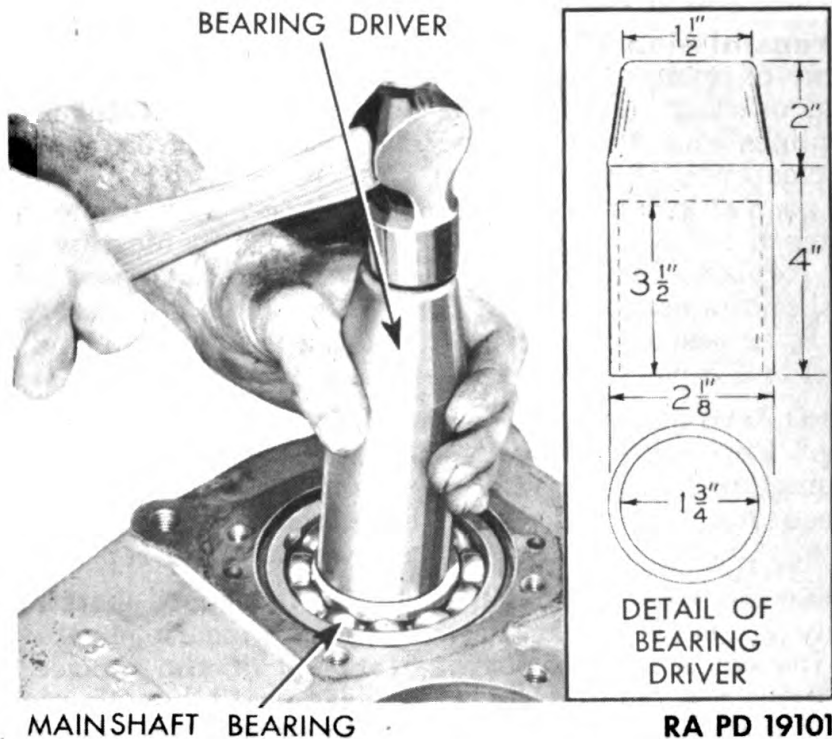
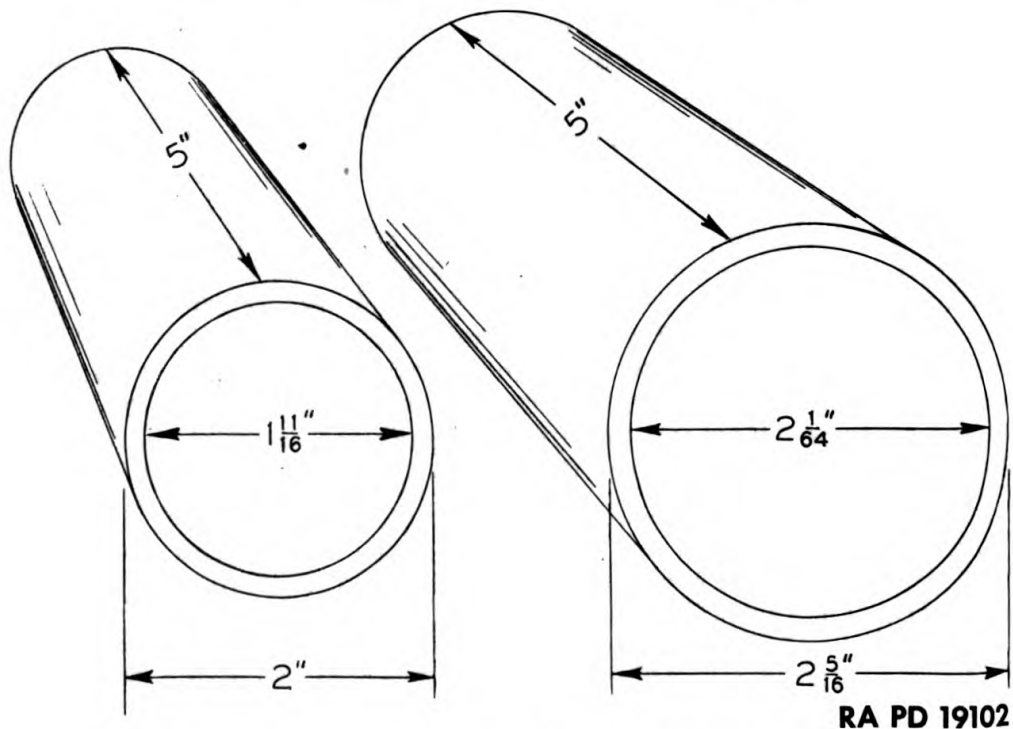

Figure 179 — Installing Mainshaft Bearing
Figure 180 — Needle Bearing Retaining Sleeve Details
f. **Replace Transfer Case Mainshaft.** Assemble mainshaft clutch collar on mainshaft under-drive gear. Shoulder of collar fits into recess in gear. Drop gear and collar onto direct and under-drive shift fork, with collar toward front of case. Slide mainshaft through gear, threaded end first, from front of case. Replace rear bearing thrust washer through rear bearing bore in case. Replace snap ring on bearing, and drive bearing into position in case (fig. 179). After bearing is installed, hold it in place and drive front end of mainshaft until shaft is fully engaged in under-drive gear. Install rear bearing cap and oil seal with new gasket, and install four cap screws and lock washers.
(1) Install rear tapered roller bearing cone onto transfer case intermediate shaft. Grease the bore of the intermediate shaft under-drive gear with heavy grease, such as wheel bearing or water pump grease. Place needle bearing spacer in bore, and arrange needle bearing rollers in bore in two rows, one on each side of spacer. There are 53 rollers in each row. Assemble intermediate shaft clutch collar on under-drive gear with shoulder of collar in recess of gear. Place gear and collar onto shift fork with collar toward rear of case.
(2) The next operation (3) can be facilitated by using two sleeves 5 inches long, the outer sleeve having an outside diameter of $2\frac{5}{16}$ inches and an inside diameter of $2\frac{1}{64}$ inches, and the inner sleeve having an outside diameter of 2 inches and an inside diameter of $1\frac{11}{16}$ inches (fig. 180). To hold needle bearing rollers in gear, place the inner sleeve inside the gear after rollers have been installed. Enter the outer sleeve through the bearing bore in front of case, and slide it over the inner sleeve extending through the gear. Holding the outer sleeve against the gear, enter the small portion of the shaft